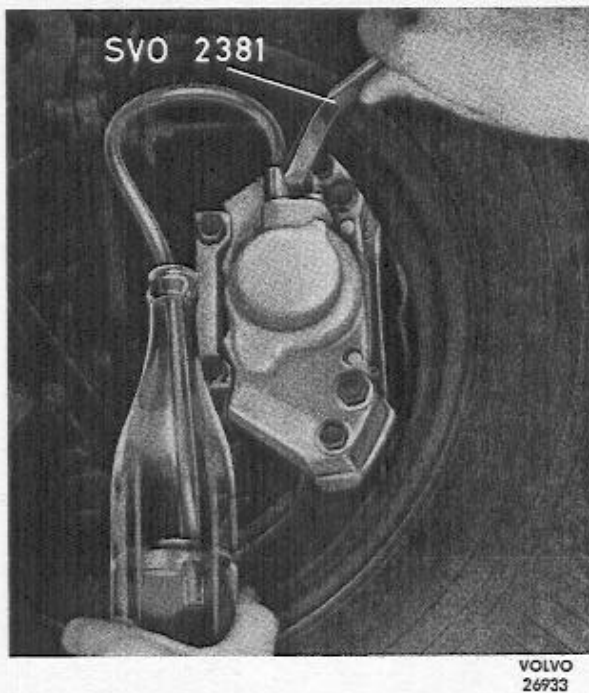

Fig. 58. Air-venting the disc brakes.
2. Clean the air-venting nipple. Place the air-venting key with hose on the air-venting nipple and let the other end of the hose hang down in the fluid in a collecting vessel, see Fig. 58. For front wheel brake units of early production, key SVO 2280 is used, for disc brakes SVO 2381, and for other brakes SVO 1431.